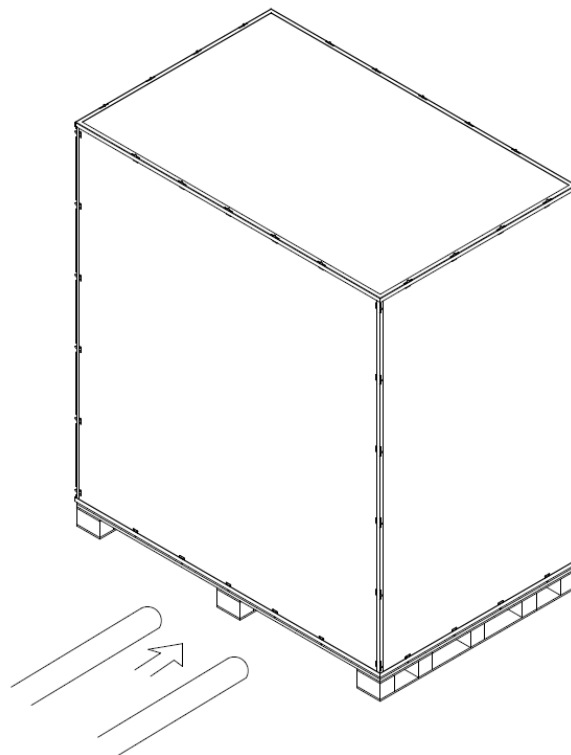

Figure 3-14 Transport the equipment to the designated location
Step 2: Use a forklift to transport the equipment to the designated location, see Figure 3-14;